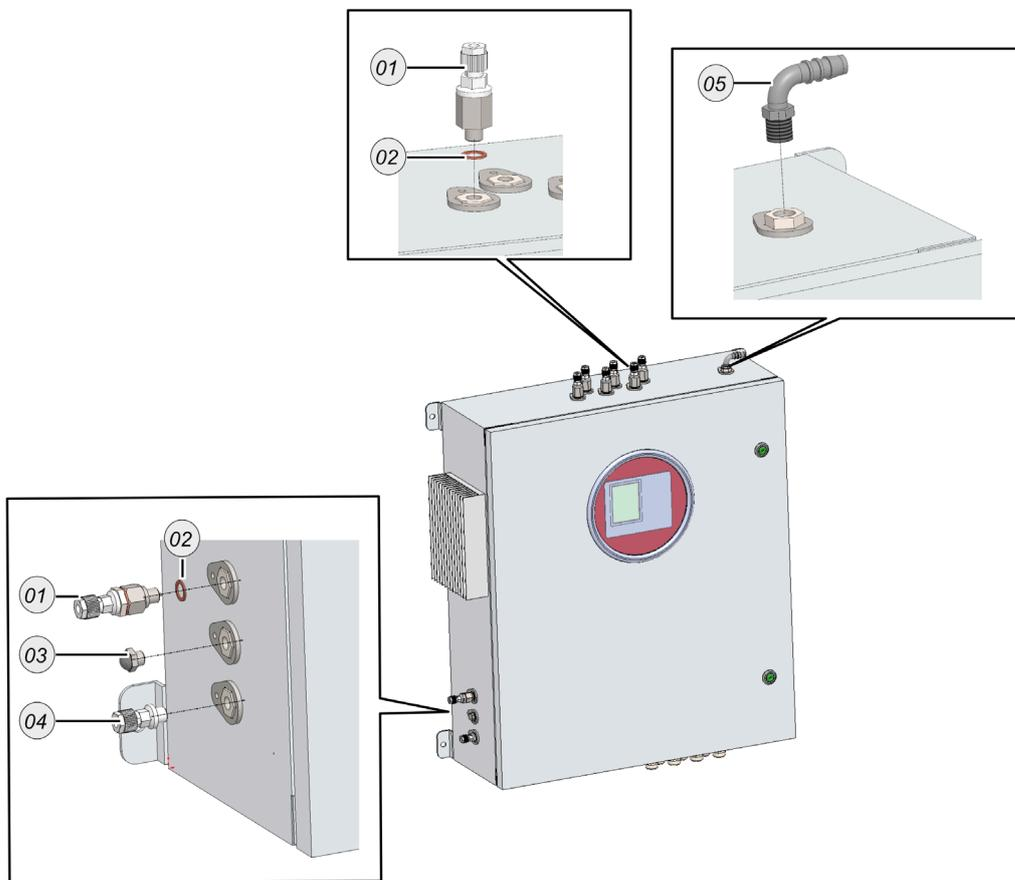

Fig. 1:
- ▶ Screw the DN6/4 condensate connection hand-tight into the Condensate Inlet (Fig.1 (4)).
- ▶ Screw the DN6/4 zero gas-fitting hand-tight into the zero gas inlet (Fig. 1 (3)).
- ▶ Screw the DN10/12 mm vent connection hand-tight into the vent (Fig.1 (5)).
- ▶ Screw the DN4/6 mm Filter-nozzle unit into the calibration gas inlet and the sample gas inlets (Fig. 1 (1-2)). Use a spanner size: 16 mm.